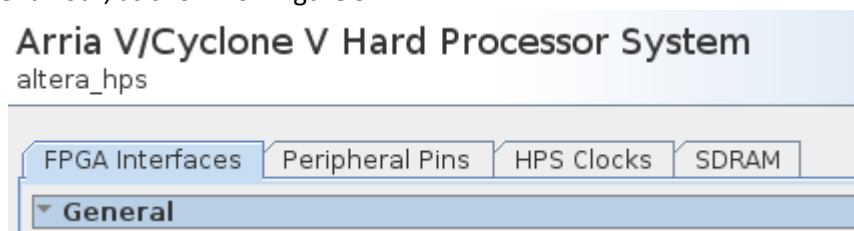

Figure 9-4. HPS Component Parameters
15. Open the HPS’ parameters and have a look around. There are 4 tabs that control various aspects of the HPS’ behaviour, as shown on Figure 9-4.